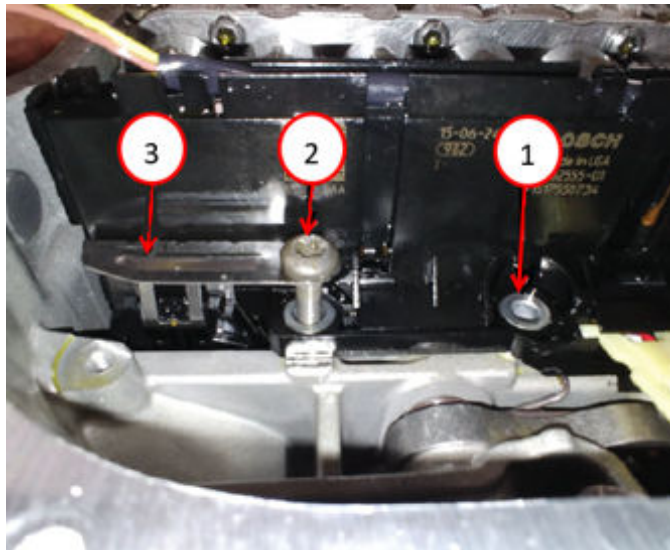

Fig. 43
67. Latch the electrical connector lock by pushing down Fig. 43.